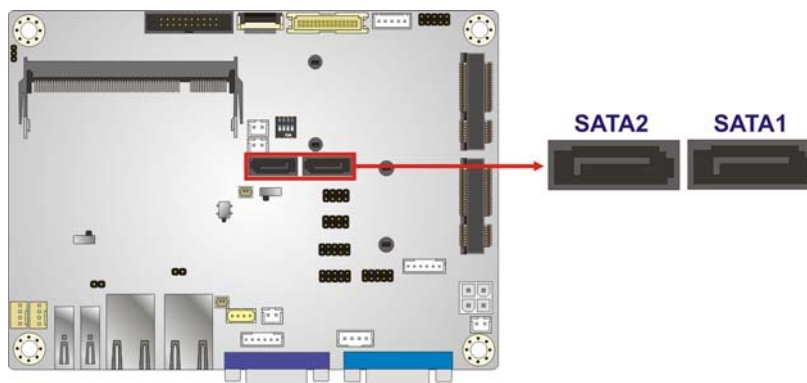

Figure 3-21: SATA 3Gb/s Drive Connectors Locations
- CN Location:** See **Figure 3-21**